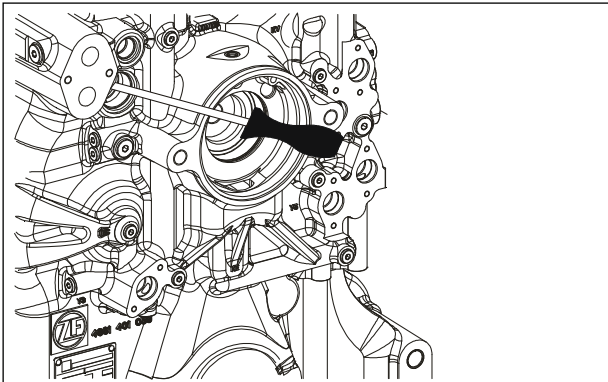

Figure 3
- = Valve assy is installed in the housing . not visible - (functional check of valve see Figure 3).